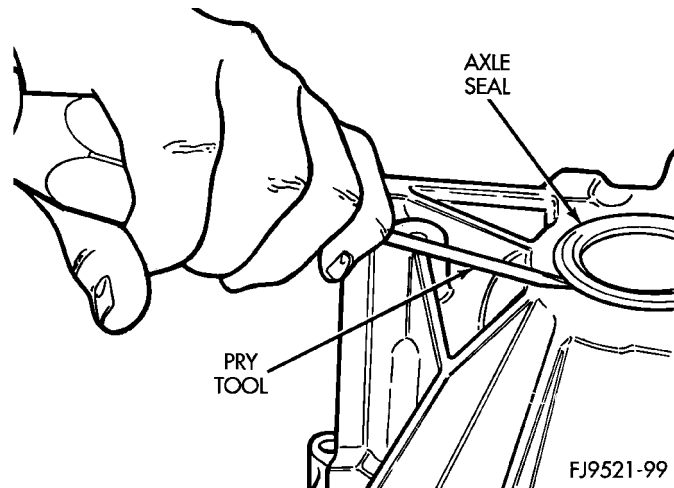

Fig. 121 Axle Shaft Seal Removal
- (1) Insert a flat-blade pry tool at outer edge of axle shaft seal (Fig. 121).
- (2) Tap on the pry tool with a small hammer and remove axle shaft seal.